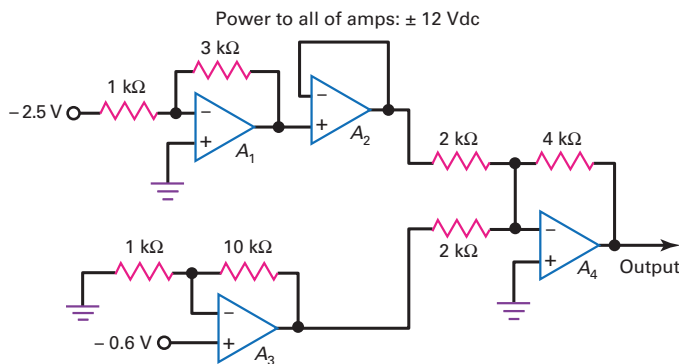

Figure 41-19 Circuit for prob. 41-2.
41.2 In Fig. 41-19, the circuit is not performing as it should. This schematic is all you have. Determine what the output is supposed to be. Measuring the output, you get a dc voltage value of -12 V . What is the problem?